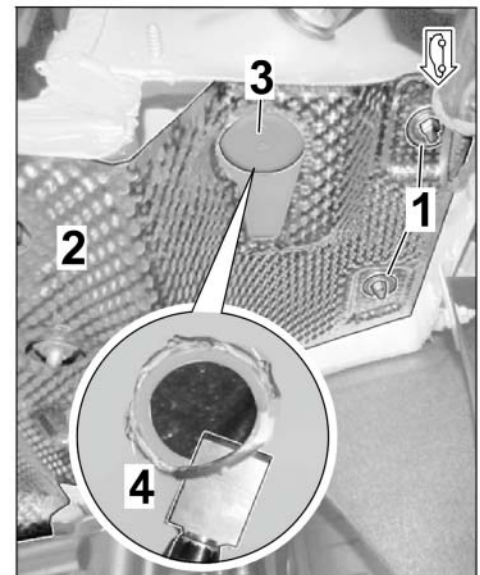

Figure 10
1.3.7 Detach heat shield in the rear silencer area – at the right (⇒ *Figure 10*) and bend it down slightly.
1.3.8 Remove dummy plug on underbody and de-burr using a spatula (⇒ *Figure 10-Magnifier*).